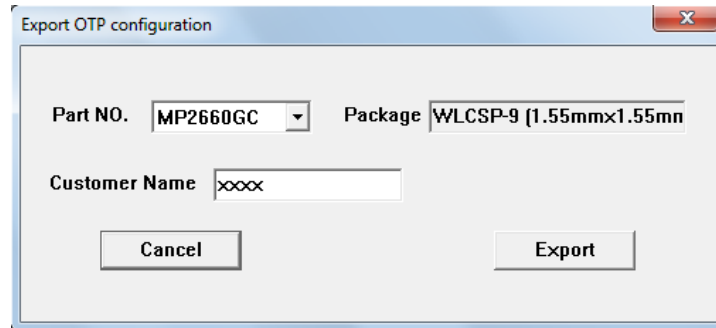

Figure 10: Select “Export”
5. Select values from the drop-down menus. Please make sure all the parameters are populated before selecting EXPORT in the tool bar. Export the configuration by clicking EXPORT. (see Figure 10).